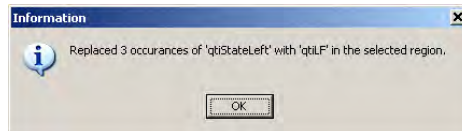

Figure 3-21
- √ Click Replace all. A message displaying the number of replacements should tell you how many changes were made as shown in Figure 3-21.